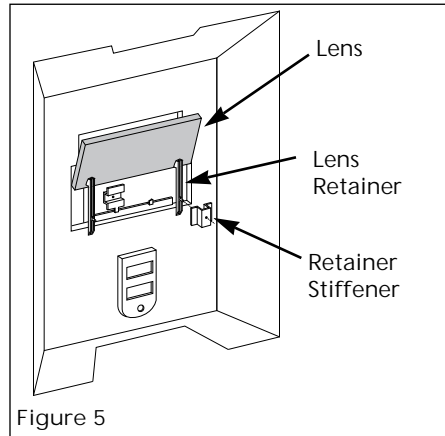

Figure 5
3. Attach the stiffeners over the pins on the lens retainers (See Figure 5).